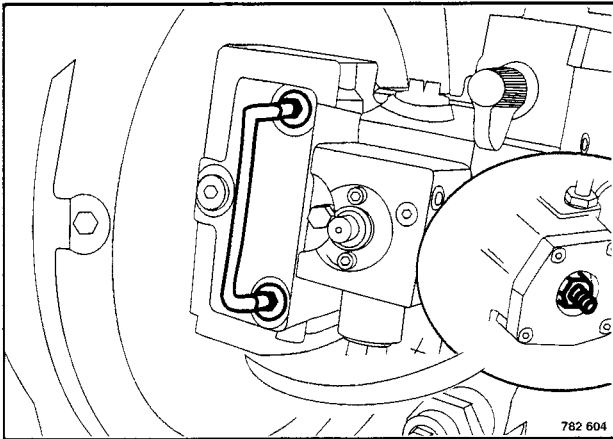

Fig. 5
1. Connect the control chamber ports X1 and X2 (Fig. 5) with a hose.